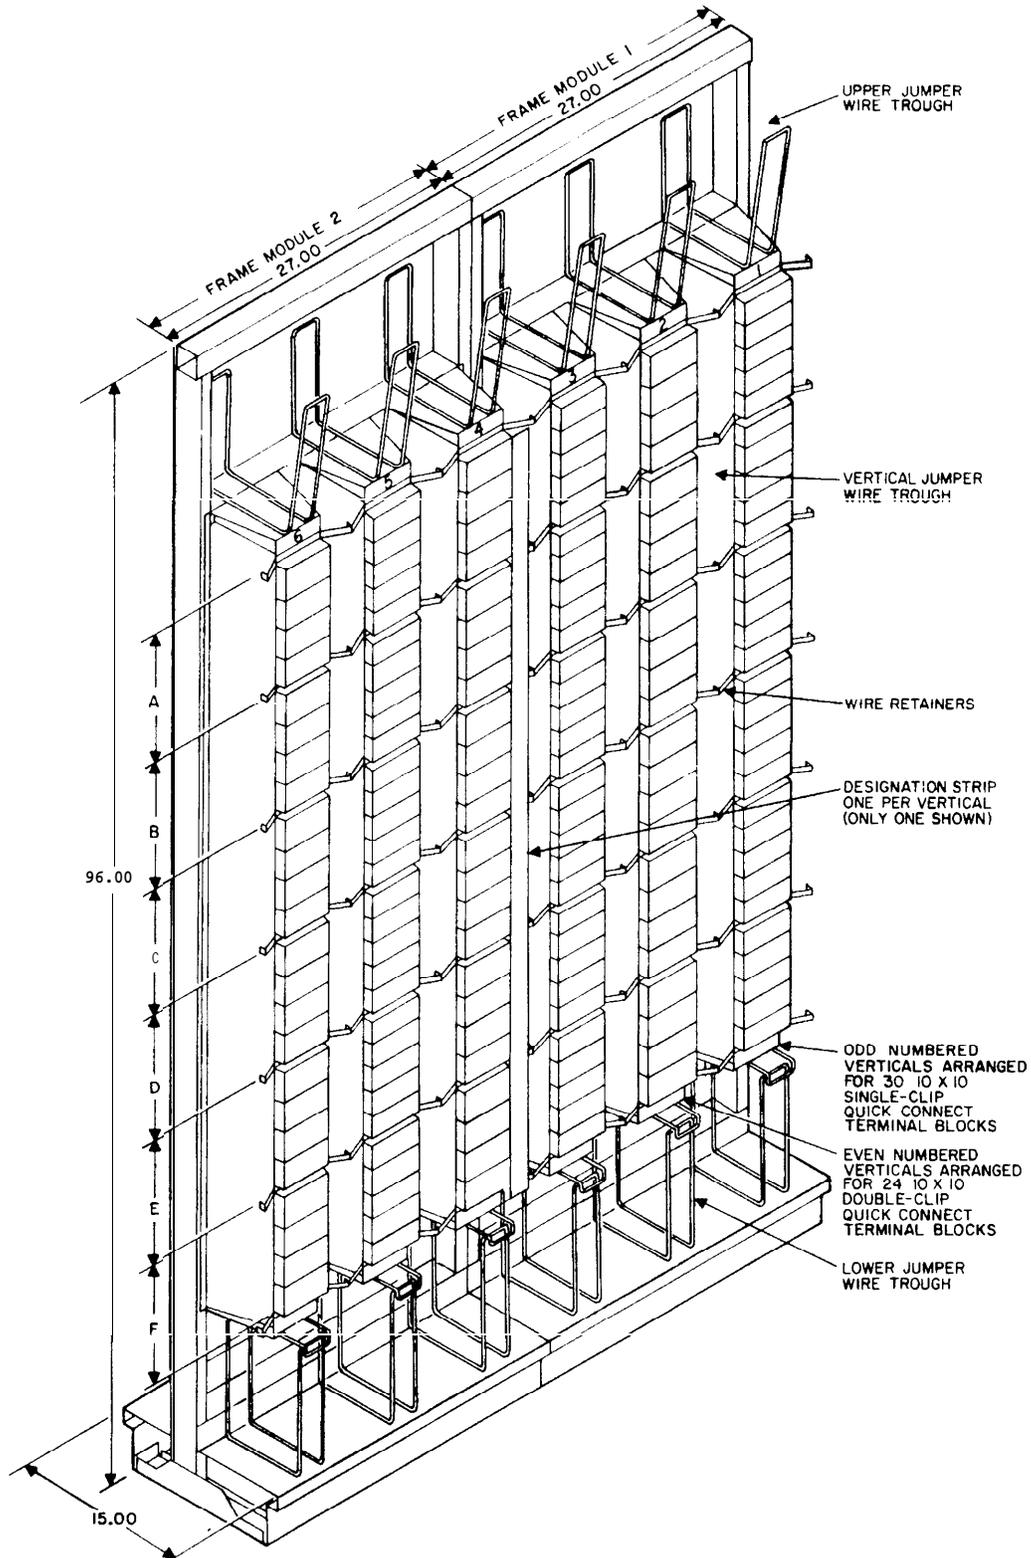

Figure 5. Typical Distributing Frame – Two Frame Modules.
2.03 The distributing frames are provided in modules, each of which consists of 3 verticals per module (see Figure 5). Each vertical will accommodate either 30 of the single-clip or 24 of the double-clip quick-connect type blocks.